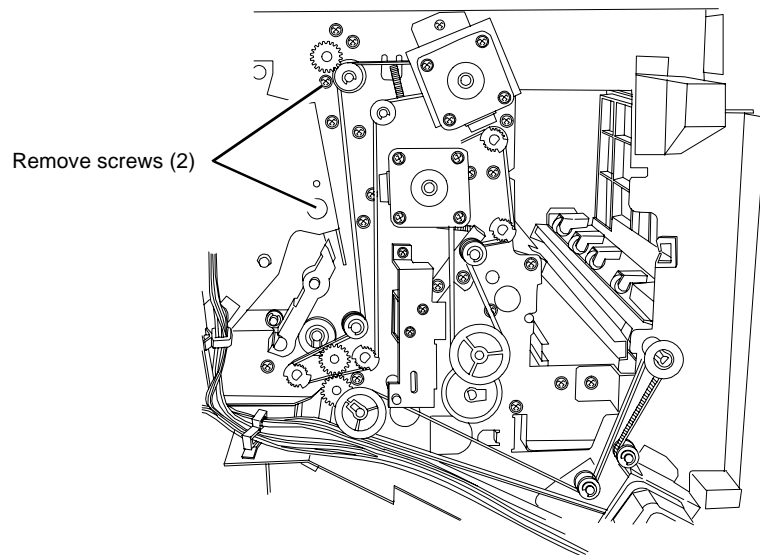

Figure 1 Removing screws on the rear of the Finisher
6. Remove screws on the rear of the Finisher (Figure 1).